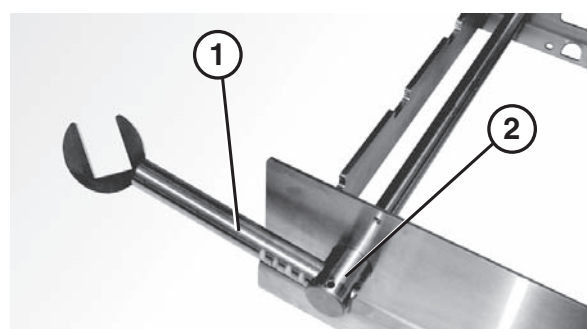

Figure 19
3. Attach nose bar idler shaft hands (Figure 19, item 1) to the tip up shaft (Figure 19, item 2).